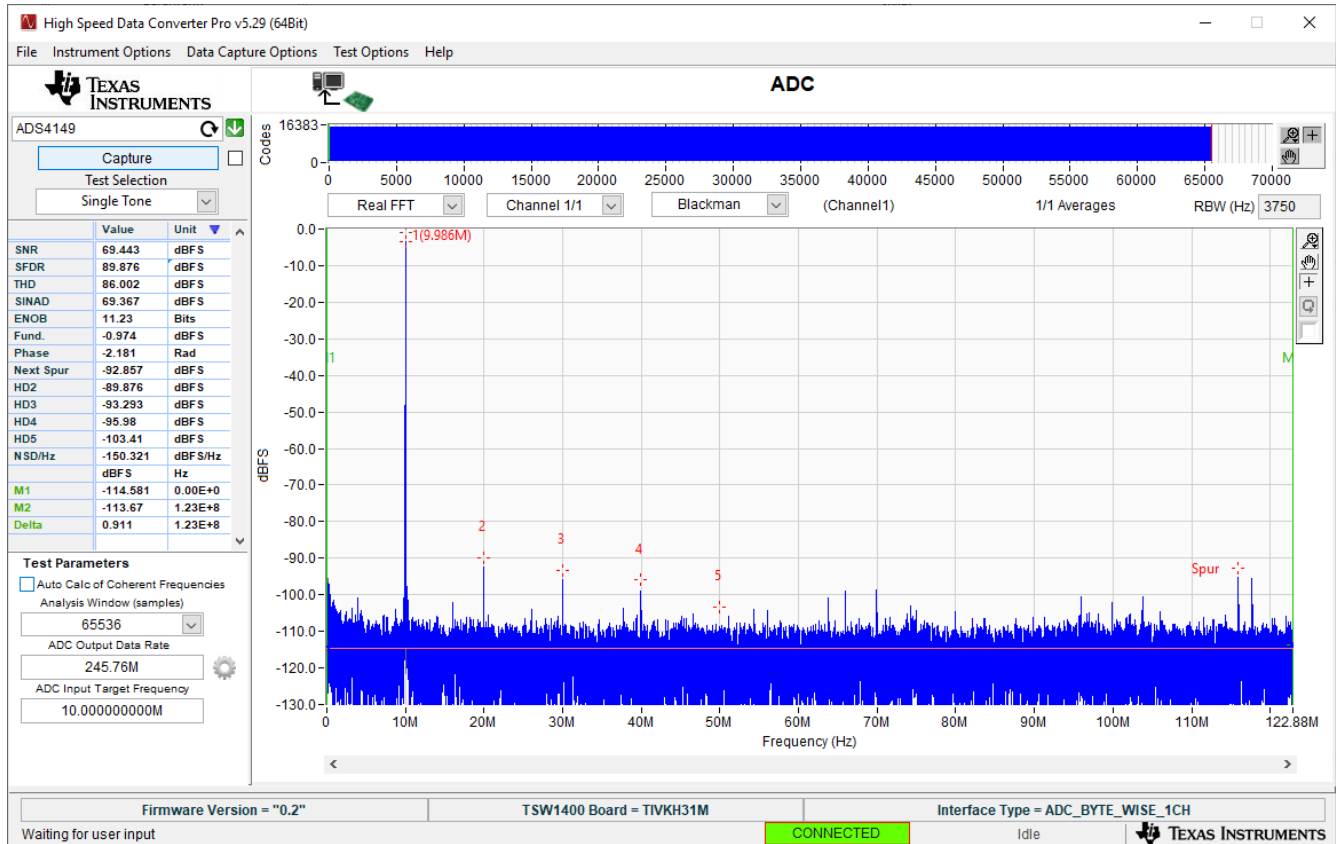

Figure 5-2. Quick-Setup Test Result.
The Clock Option 1 provides a clock to ADC directly from an external source. For the direct supply of the clock to the ADC, a single-ended square or sinusoidal clock input must be applied to J19. The clock frequency must be within the maximum frequency specified for the ADC. The clock input is converted to a differential signal by a Mini-Circuits™ ADT4-1WT, which has an impedance ratio of 4, implying that voltage applied on J19 is stepped up by a factor of 2. ADC performance in this case depends on the clock source quality. This option is also the default configuration on the EVM, when it is shipped from the factory. The test result using this option is shown in Figure 5-2.
Option 1 supplies the transformer-coupled input from J6 to ADC. This configuration is the default on the EVM. The test result using this option is shown in Figure 5-2. A double-transformer input circuit is used to provide better differential to single-ended conversion than a single transformer can provide. The transformers used are both of a 1:1 turns ratio, so termination of the 50-Ω input signal path after the transformers can be two 25-Ω resistors terminated to the common-mode voltage (VCM) provided by the ADC.
- Measurement is illustrated in Figure 5-2.
The user can make the jumper setting as mentioned in Table 1-1. In this configuration, the EVM uses an external clock source from J19 and a direct input signal J6 to the ADC. This setup uses Power Option 2 (Table 2-2), Clock Option 1 (Table 2-4), and Analog Input Option 1 (Table 2-6), which is the default on the EVM. Figure 5-2 shows the ADC performance capture using TSW1400 with the input signal of a 10-MHz frequency and clock frequency of 245.76 MHz with ADS4149.